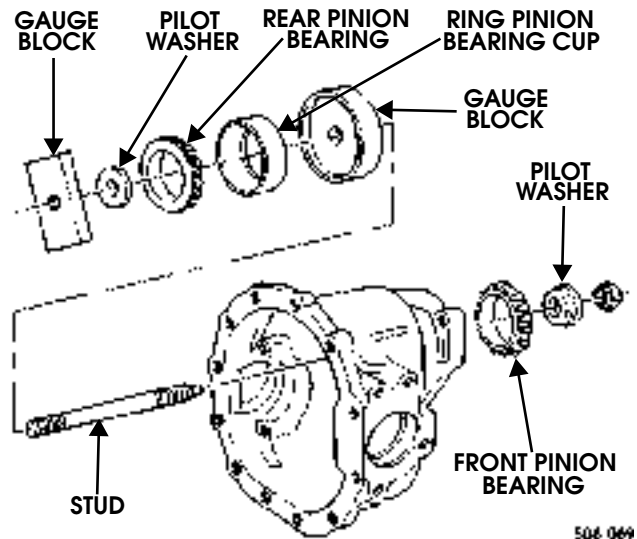

Figure 9-87: Pinion Front Bearing and Depth Tool Removal
18. Remove nut, pilot washer, front pinion bearing, and stud assembly from housing (Figure 9-87).